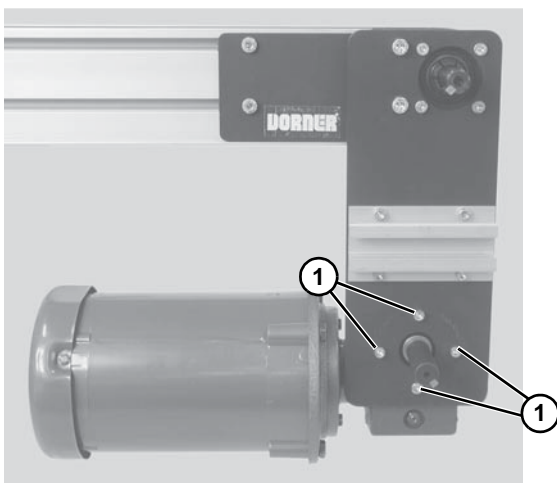

Figure 7
- If required, change gearmotor position by removing four (4) screws (**Figure 7, item 1**). Rotate gearmotor to other position and replace screws (**Figure 7, item 1**). Tighten to 110 in-lb (12 Nm).